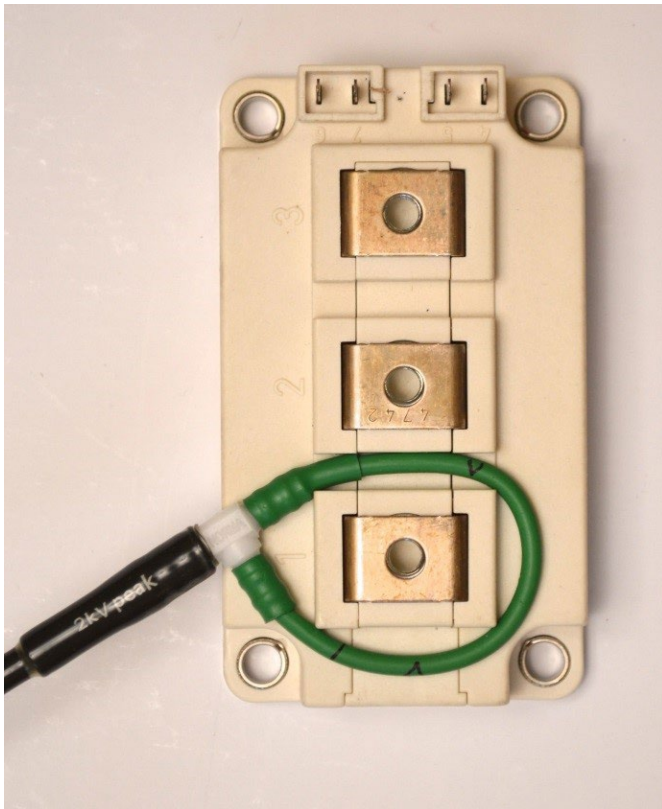
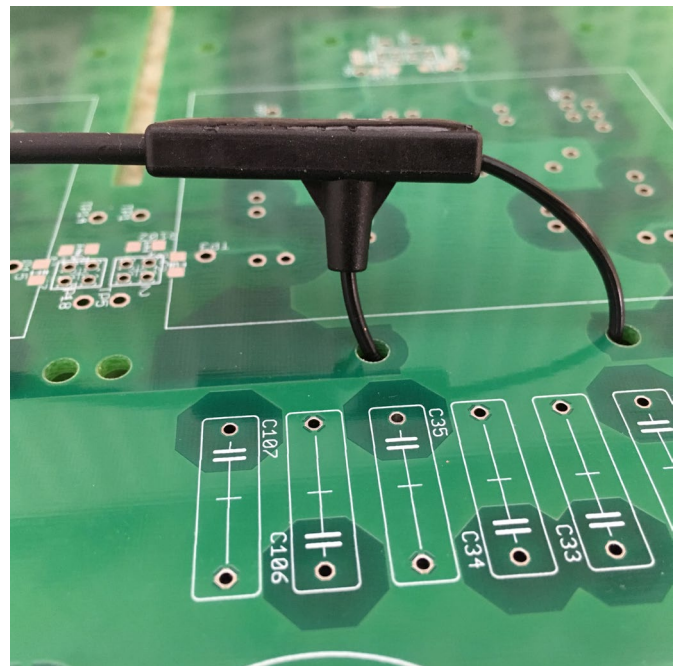

Figure 6: Rogowski coil fitted around the terminal of a 62 mm module
Figure 9: Rogowski coil used to measure current in a PCB trace
Rogowski coils (3): These have a bandwidth of between 15-30 Mhz which is enough for many applications and any delay skew can be compensated for with an oscilloscope. They have the advantage of being flexible and so are easy to insert into the power circuit. Figures 6, 7, and 8 show them used on a 62 mm, EconoDUAL™ 3 with small standoffs and a PrimePACK™ module. In case it is needed, do not be afraid to cut a little plastic to help getting the coil to fit. Some high power modules have more than one screw connection for the collector or emitter current and in this case more than one probe might be required. Figure 9 shows how a coil can be used on a PCB based design with a loop around a current carrying trace. This method requires that the PCB designed with this end in mind.